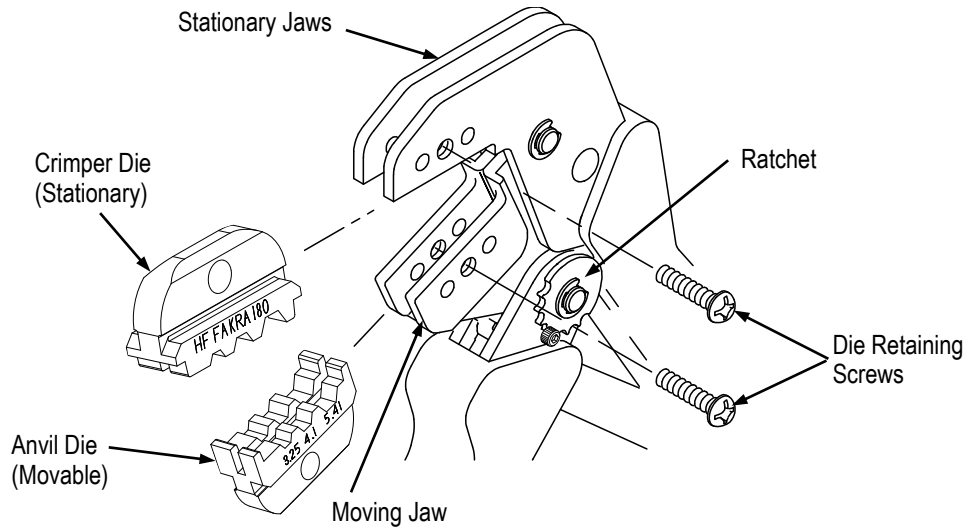

Figure 2
2. DESCRIPTION (Figure 2)
3. DIE INSTALLATION (Figure 2)